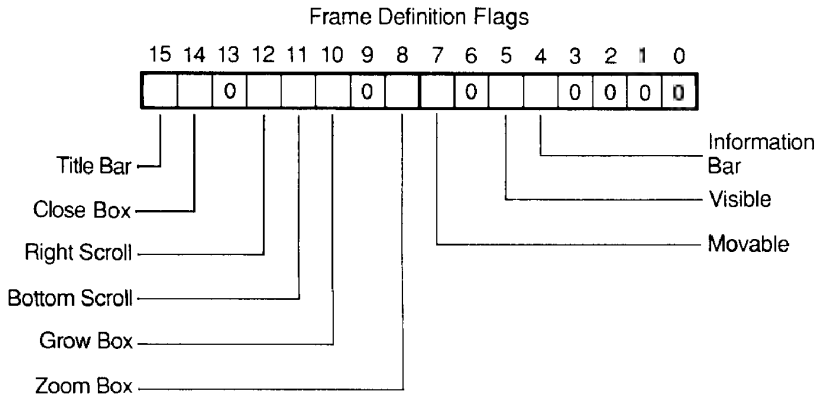

Figure 9-5
The *wFrame* parameter is a word-size bit pattern that is arranged as shown in Figure 9-5. Here, Title Bar, Close Box, Right Scroll Bar, and so on, are switches by which you specify the controls the window should have; a 1 means the window has that control, a 0 means it does not. A 1 in the "Movable" bit specifies that the window may be dragged by its title bar. The "Visible" bit stipulates whether the window should be visible (1) or invisible (0). Generally, you should make it invisible to start. Then, after you have drawn its contents, do a `ShowWindow` call to make it visible.